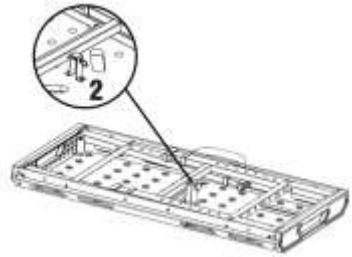

Fig. 1
2. Locate the lock pin (#2) and pull it out (Fig. 1).